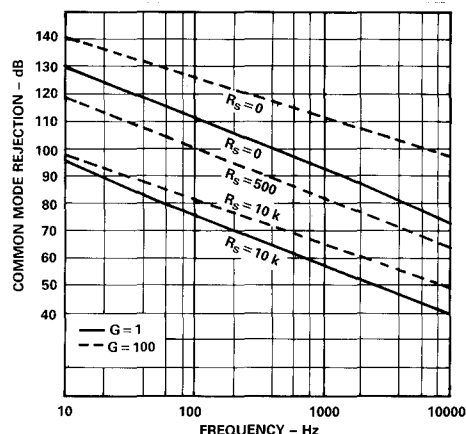

Figure 3. Common Mode Rejection (CMR) vs. Frequency (Hz), Gain (V/V) and Resistance ( $\Omega$ )
**Common Mode Rejection.** Figure 3 illustrates the common mode rejection (CMR), expressed in dB, of the AD203SN versus frequency (Hz), gain (V/V) and source impedance imbalance ( $\Omega$ ). To achieve the optimal common mode rejection of unwanted signals, it is recommended that the source imbalance be kept as low as possible and that the input circuitry be carefully laid out so as to avoid adding excessive stray capacitances at the isolator's input terminals.